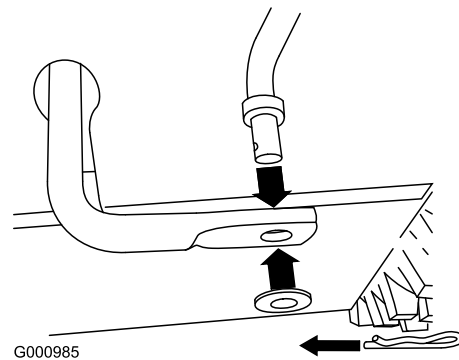

Figure 10
1. Remove the hairpin cotter and washer from the lower end of the speed control rod and insert the lower end of the rod into the lower link arm so that the bent end of the speed control rod faces rearward (Figure 10).